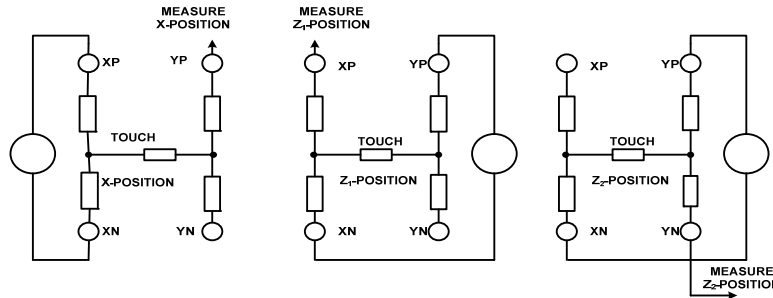

Figure 11 Pressure Measurement Block Diagram
NS2016 can also measure the pressure of touch, that is written in Table 3 Measurement of Z direction. In general, the performance of such measurements do not ask for much, so the use of 8-bit resolution mode (however, the calculation is the following 12-bit resolution mode) can be. There are several different ways to achieve the pressure measurements. The first method needs to know X panel of the resistance, X the location of the measurement, touch screen panel attached between the two measured values (Z1 and Z2), as shown in Figure 11. Formula can be used (3) calculate the touch resistance: